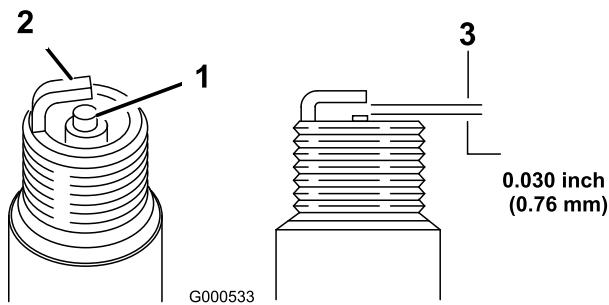

Figure 26
- 1. Screw (4)
11. Set the gap on the plug to 0.030 inch (0.76 mm) (Figure 26).